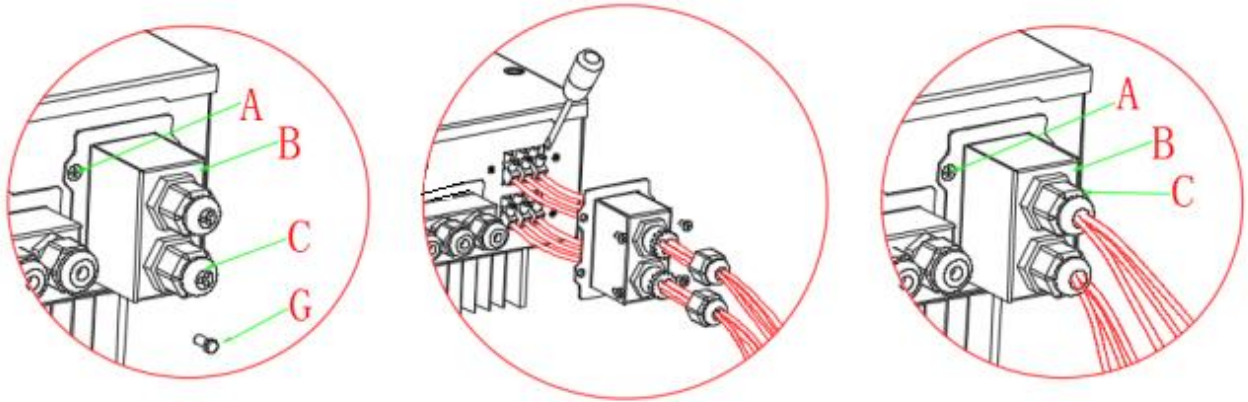

Fig. 14 Grid & Load connection
Step 1: Loosen 4 screws (part A) using a screwdriver (fig. 14)